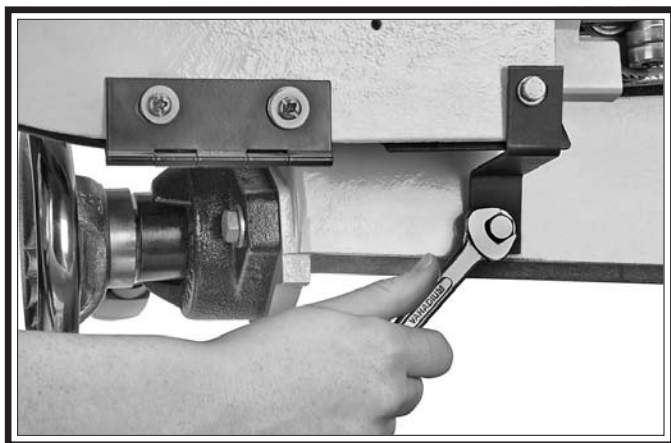

Figure 10. Removal of the shipping bracket.
1. Remove the shipping strap hex bolt and strap as shown in **Figure 10**. Keep this shipping bracket in case you transport or ship the bandsaw in the future.